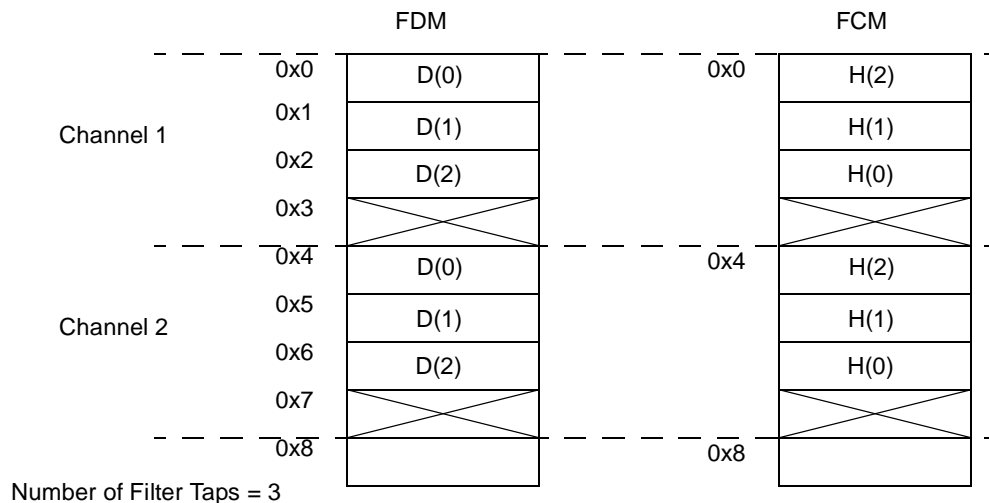

Figure 17. Memory Configuration Example
The number of coefficients,  $M$ , used by each channel determines how the filter coefficients and data samples are stored in FCM and FDM, respectively. The value  $m = M-1$  is stored in the Filter Count Register (FCNT) to select the number of filter taps that each channel will use. The base address (lower boundary) value of the FDM and FCM must have zeros in the  $k$  LSBs, where  $2^k \geq M \geq 2^{k-1}$ . The upper boundary is equal to the lower boundary plus  $(M-1)$ . Since  $M \leq 2^k$ , once  $M$  is chosen (that is, FCNT[11-0] is assigned), a sequential series of data memory blocks (each of length  $2^k$ ) is created where multiple circular buffers for multichannel filtering can be located. If  $M < 2^k$ , there is a space between sequential circular buffers of  $2^k - M$  (see Figure 17).
**Figure 17** shows an example EFCOP memory configuration. The EFCOP is set in Multichannel mode. There are two filter channels and each channel has three coefficients. Before the EFCOP is enabled, the FCM must be initialized. The coefficients for the first channel are stored in reverse order starting from the FCM base address (0x0). Since each filter has three coefficients ( $k = 2$ ), the coefficients for the next channel start at 0x4. After the EFCOP is enabled and initialized, the sample data is sent to the Filter Data Input Register (FDIR). The EFCOP transfers that data to the FDM. The EFCOP does not touch the 0x3 and 0x7 positions in FDM and FCM.